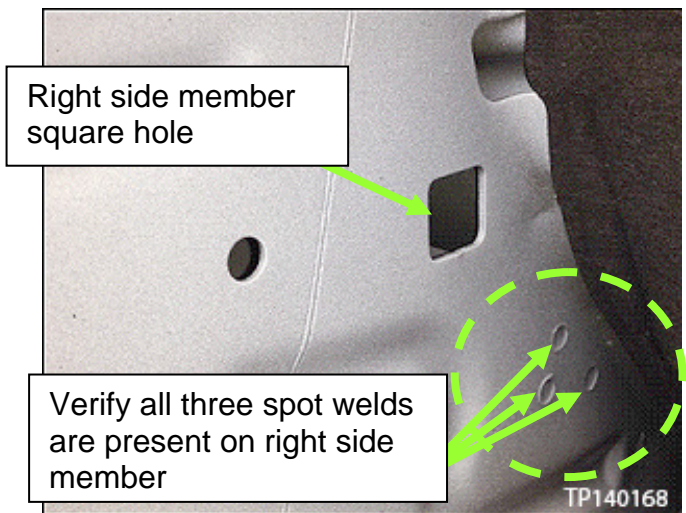

Figure 5
- Locate the square hole in the right (passenger) side member as shown in Figure 5.